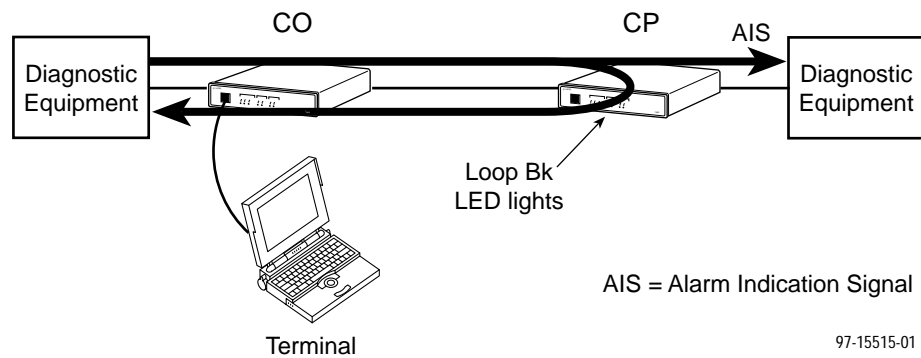

Figure 7-3. Remote Loopback, Initiated at the CO Unit
- The data flow is indicated by the bold thick arrows in **Figures 7-3 and 7-4**.